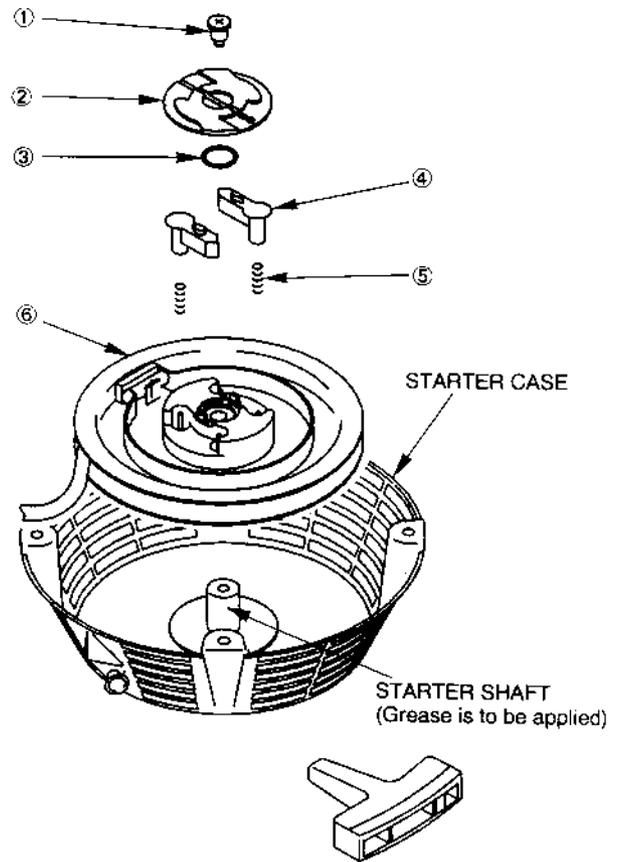

Fig. 71
(5) Remove each part in accordance with Fig. 71
Reassemble the parts in reverse order of disassembling shown in Fig. 71. Tighten the center screw securely.